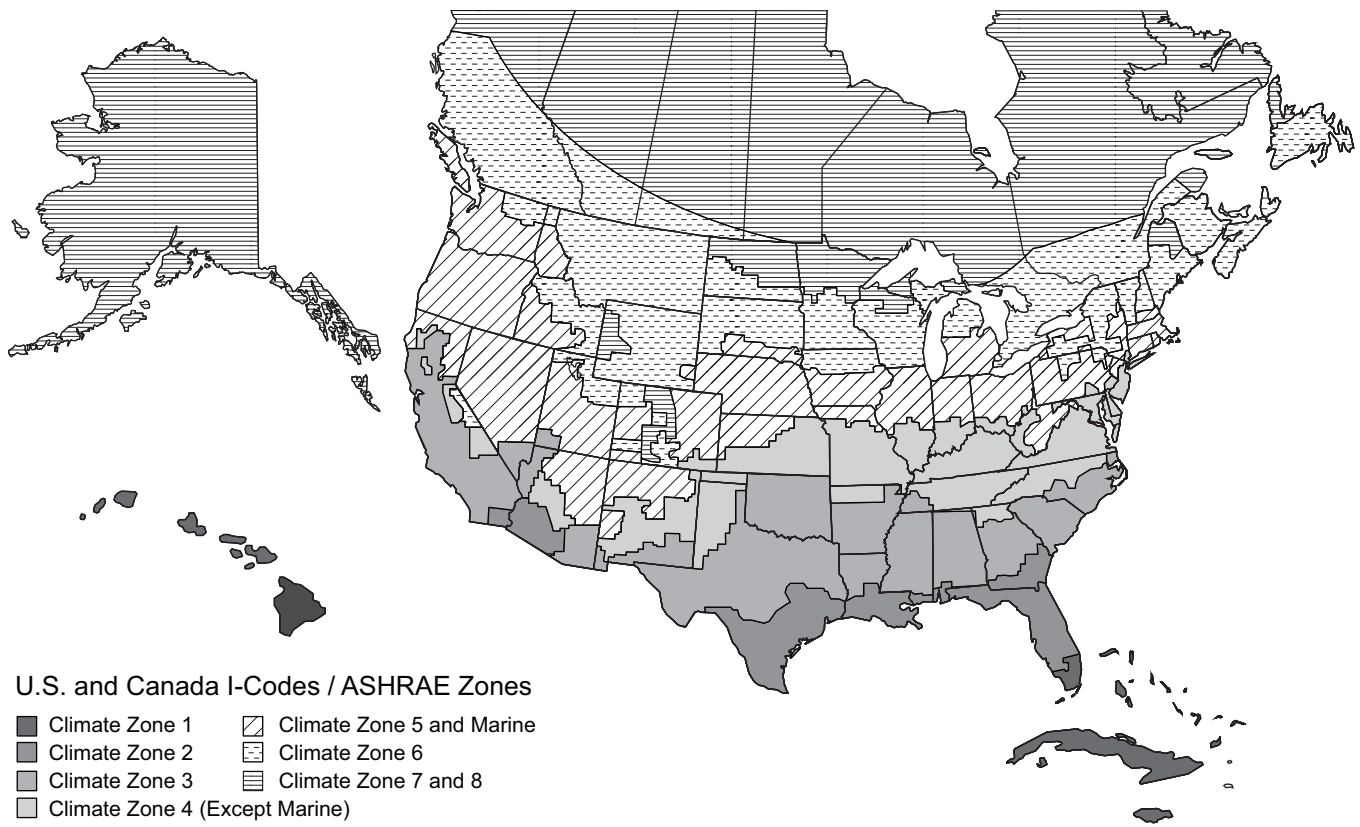

Fig. 95 — U.S. and Canada Climate Zones
- a. Refer to Fig. 95 for map of U.S. and Canada climate zones.